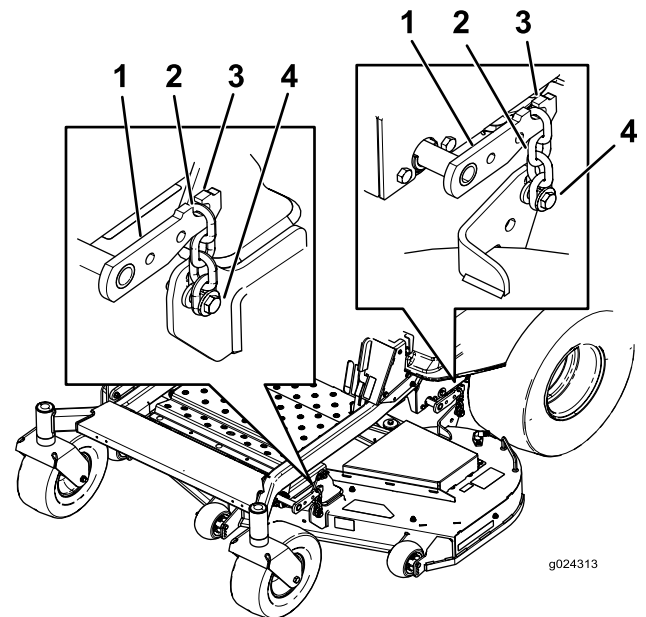

Figure 64
7. Remove the chains from the hooks on the deck-lift arms (Figure 64).
6. Lift the rear of the mower deck and attach the chains to the rear lift arms (Figure 64).
7. Attach the front chains to the front lift arms (Figure 64).